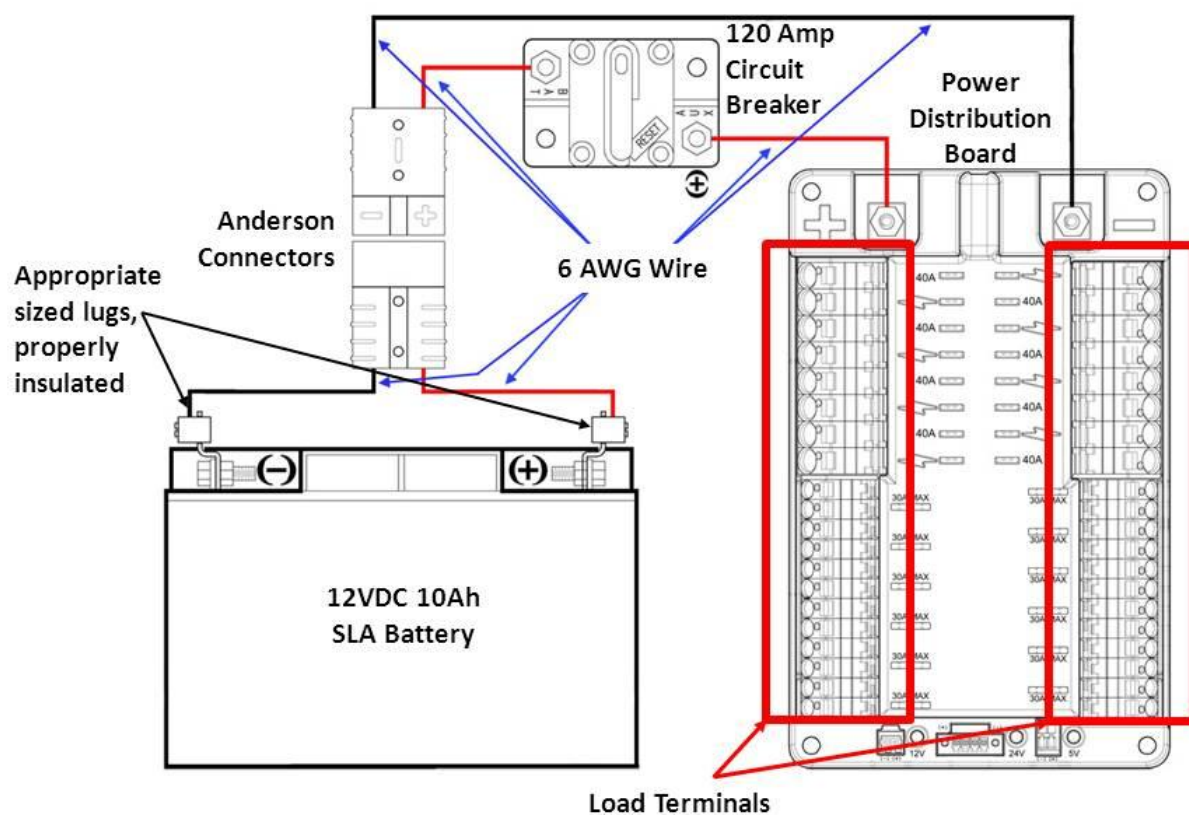

Figure 4-8
- [R39]** The 12V battery, the main 120-amp circuit breaker, and the PD Board shall be connected as shown in Figure 4-8.